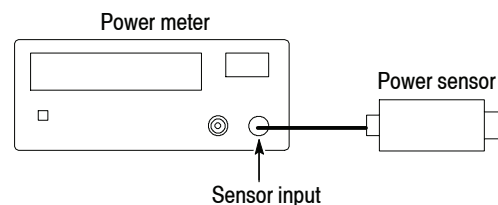

Figure 3-9: Initial hookup for setting up the power meter and sensor
- a. Connect the power meter and the power sensor. See Figure 3-9 below.